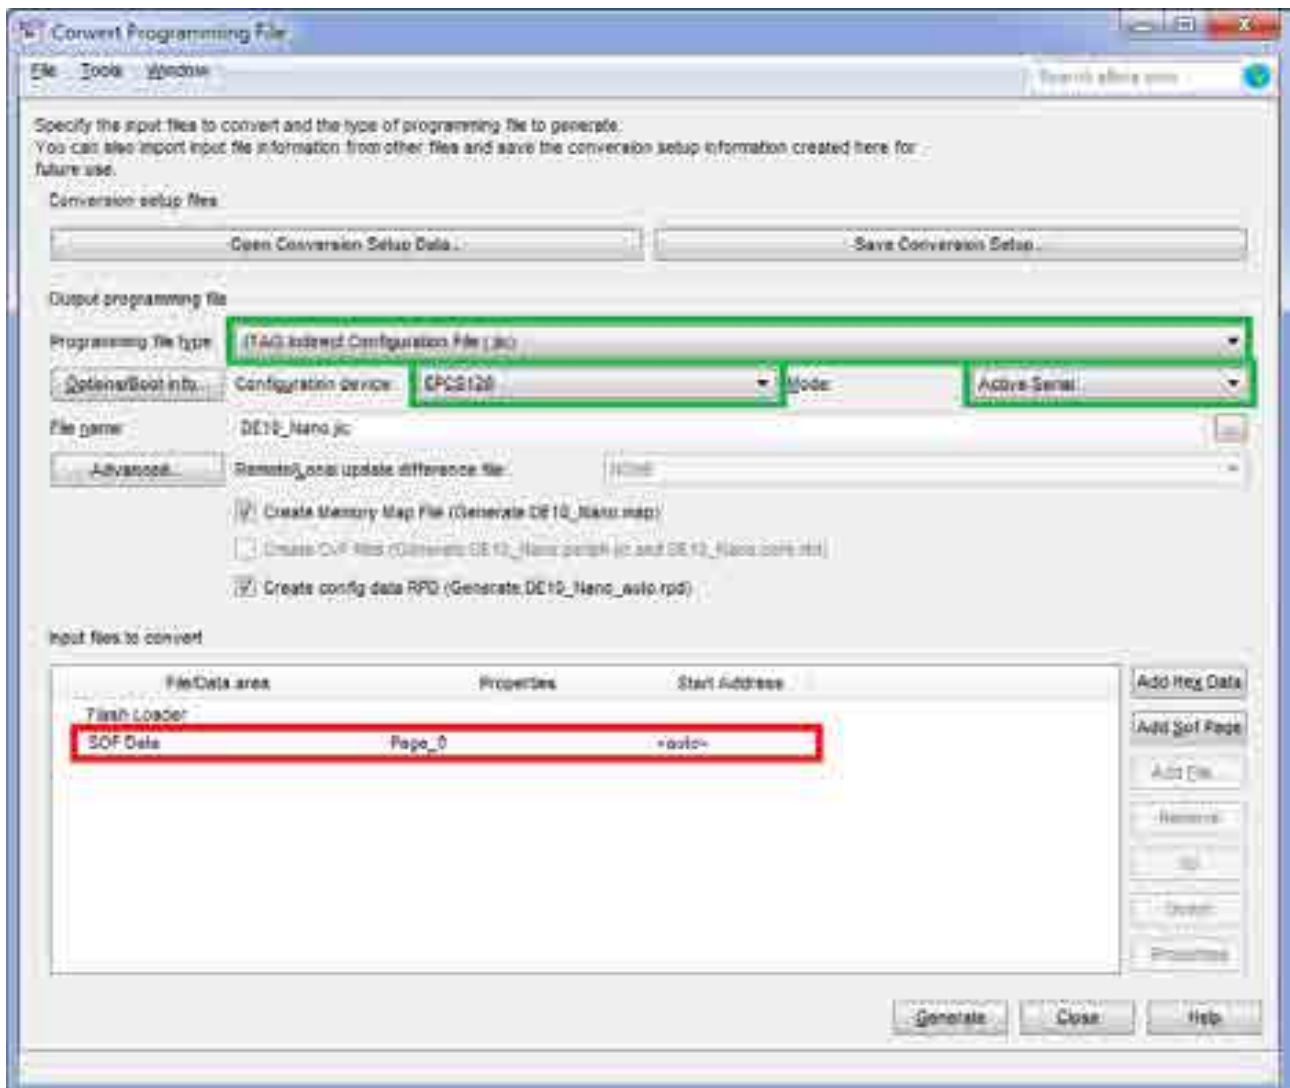

Figure 8-3
6. Click on the SOF data in the section of Input files to convert, as shown in **Figure 8-3**.